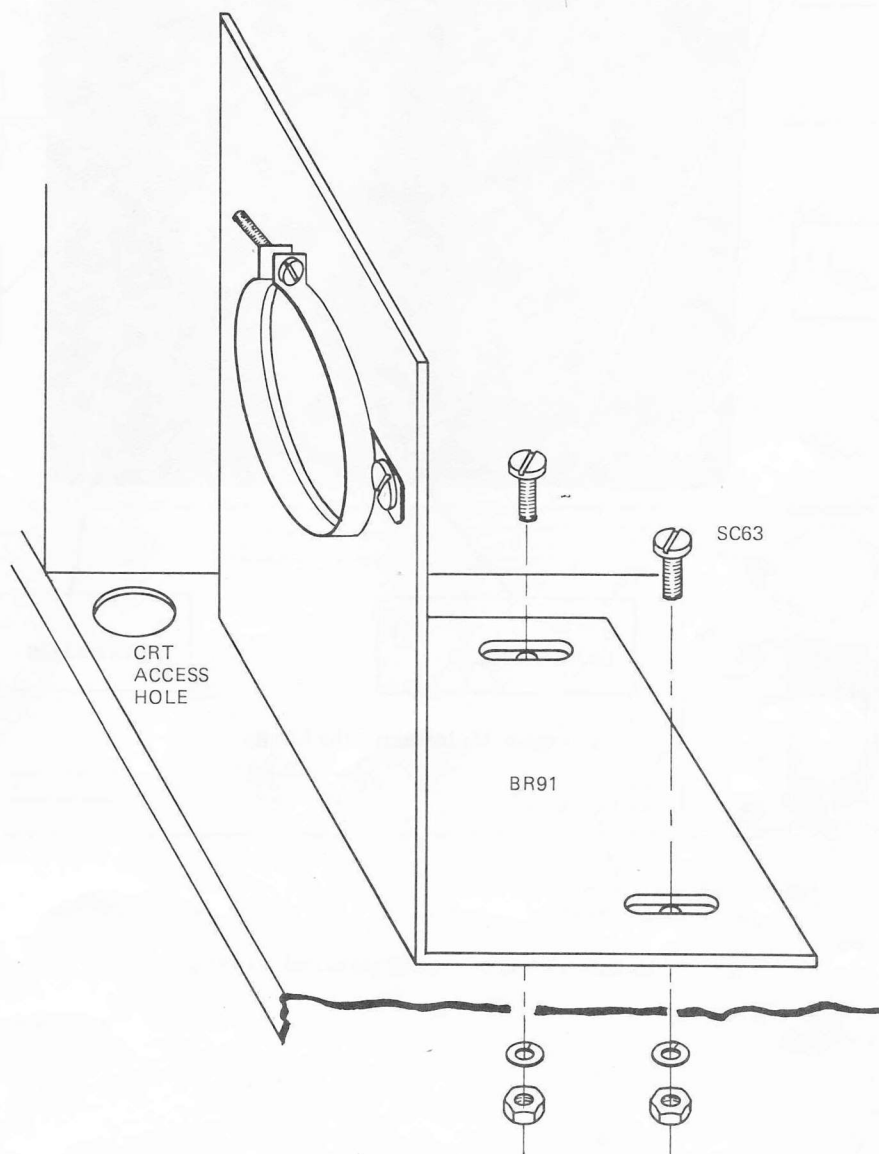

Figure 37. Installing BR91.
(5) Install BR91 on the main chassis using two 6-32 $\times$ 1/4" machine screws, lockwashers, and nuts as shown in Fig.37. Do not tighten this hardware at this time ()